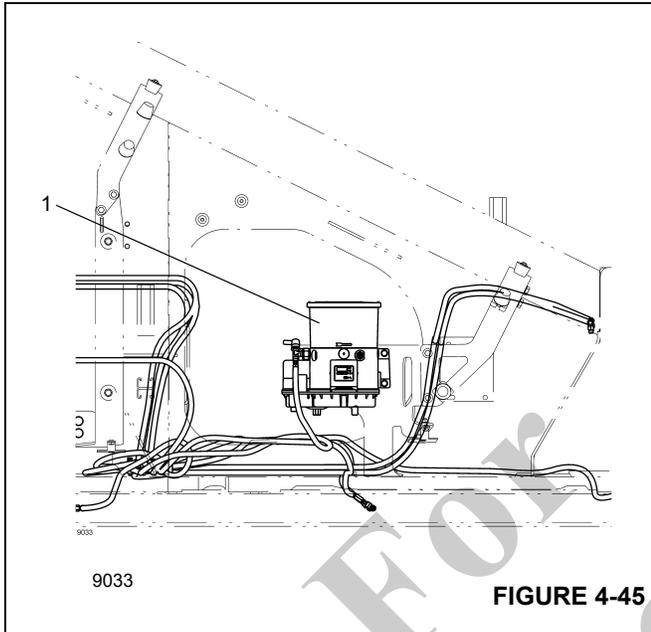

FIGURE 4-45
The grease container (1), (Figure 4-45) is located on the right side of the turntable above the storage compartment.